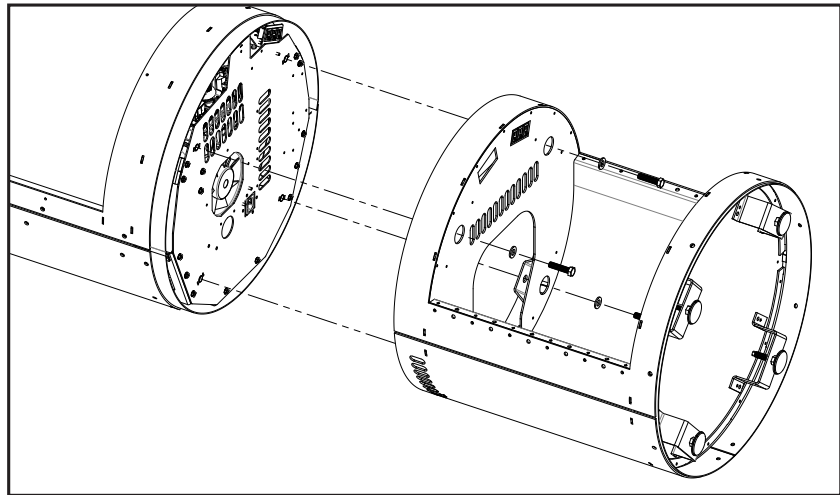

Figure 78: Wood Pedestal Installation
The wood pedestal comes packaged with four (4) hex head bolts and four (4) washers used to secure the pedestal onto the unit. Fasten the wood pedestal to the unit using the same threaded holes that the leveling legs were installed (see Figure 78).